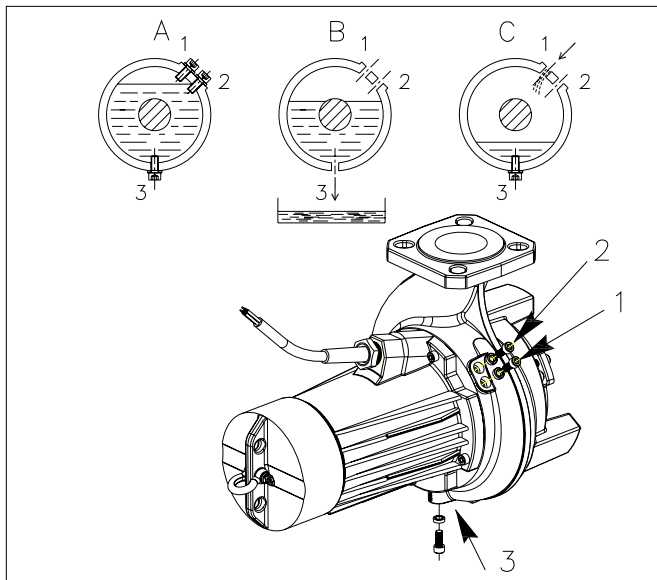

Fig. 7.4
Put the pump in a horizontal position so that plug (3) is at the bottom (fig.7.4 position A).
Remove the plug and drain the oil (fig.7.4 position B).
(Fig.7.4 position C).
(fig.7.4 position A).